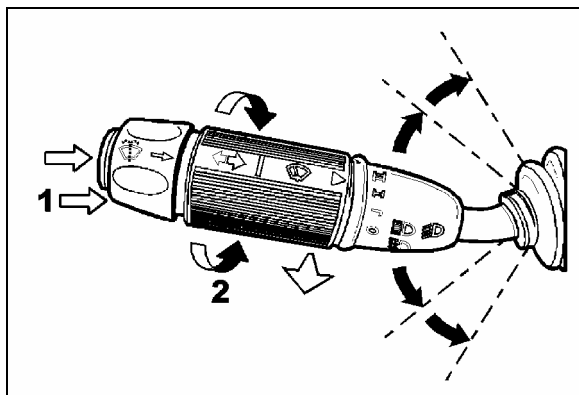

FIGURE 39: MULTIFUNCTION LEVER
7. Loosen the bolt retaining the lever at the end of the motor driving shaft (Fig. 39).